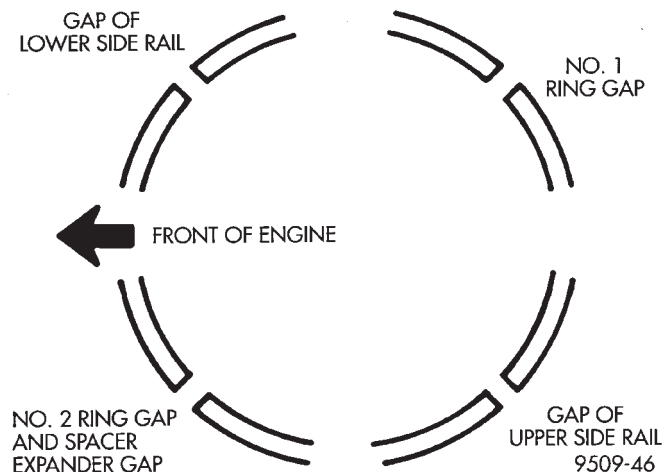

Fig. 80 Piston Ring End Gap Position
- (4) Position piston ring end gaps as shown in (Fig. 80).
- (5) Position oil ring expander gap at least 45° from the side rail gaps but **not** on the piston pin center or
(1) Before installing pistons and connecting rod assemblies into the bore, be sure that compression ring gaps are staggered so that neither is in line with oil ring gap.
(2) Before installing the ring compressor, make sure the oil ring expander ends are butted and the rail gaps located as shown in (Fig. 80).